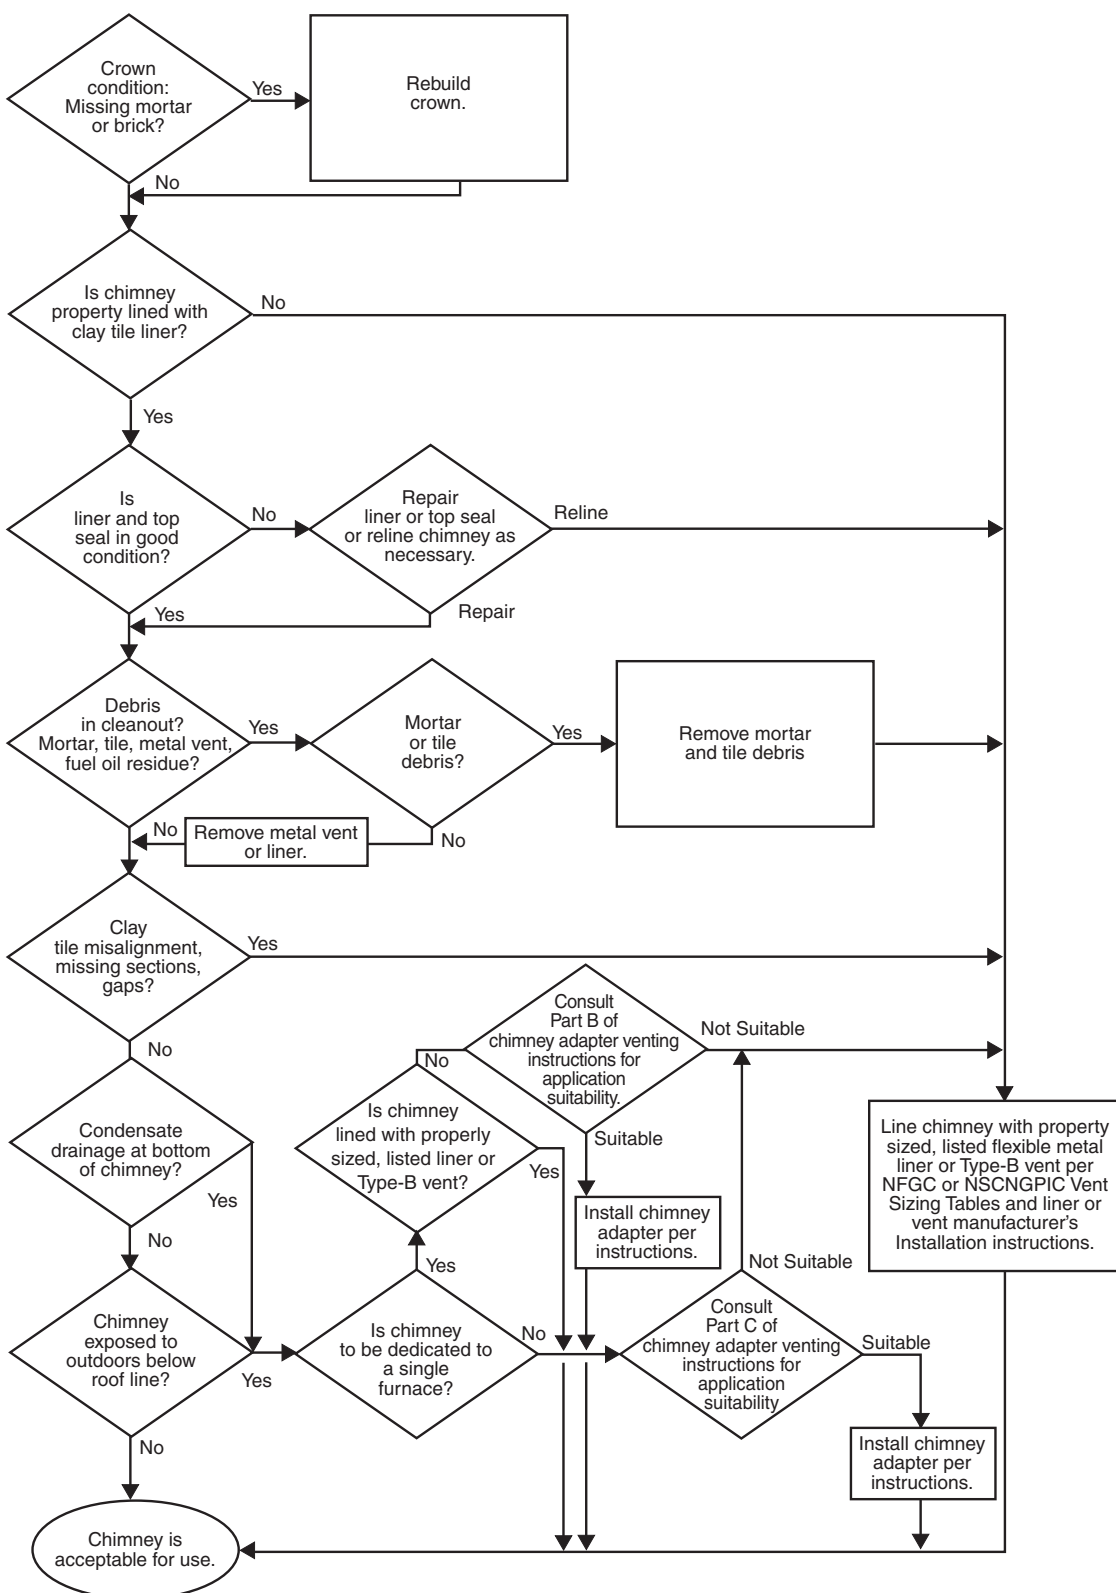

Fig. 33—Chimney Inspection Chart
7. Do not vent this appliance into an unlined masonry chimney. Refer to Chimney Inspection Chart, Fig. 33.
Inspections before the sale and at the time of installation will determine the acceptability of the chimney or the need for repair and/or (re)lining. Refer to Fig. 33 to perform a chimney inspection. If the inspection of a previously used tile-lined chimney: